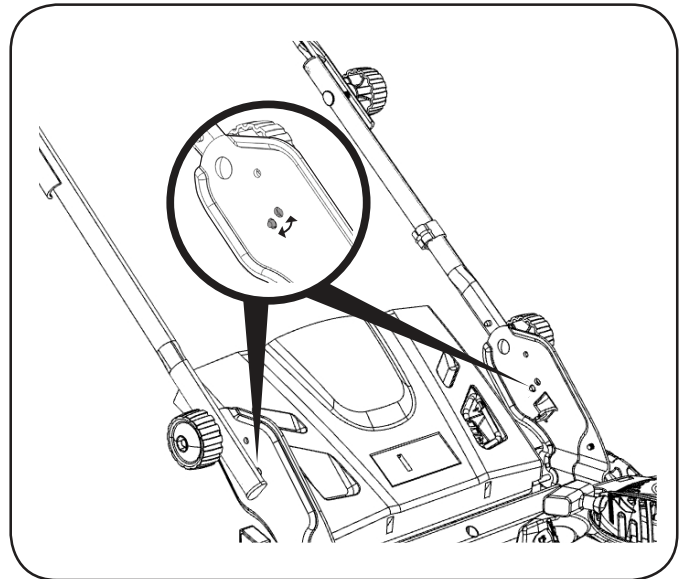

Figure 8
1. Remove star knobs and carriage bolts from the lower handle (Figure 8).